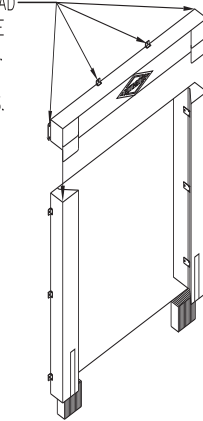

FIGURE 7
3. Mark and drill mounting holes for header See Figure 7.